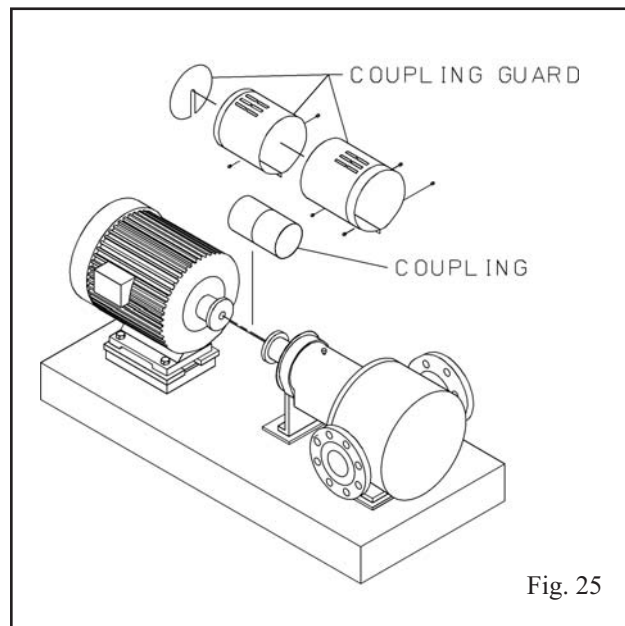

Fig. 25
5. Remove coupling guard (Fig. 25).
6. Disconnect coupling (Fig. 25).